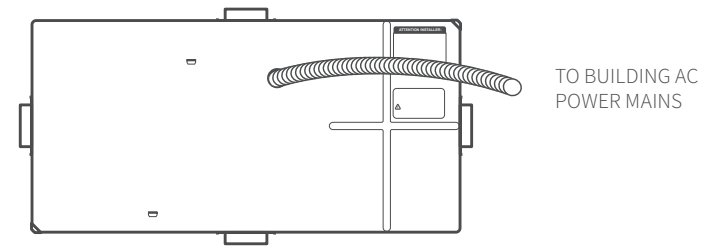

FIGURE 1
2. Find the power conduit hole on the Topcat back can and remove the plastic plug. Insert the mains electrical wire through the hole (Figure 1).